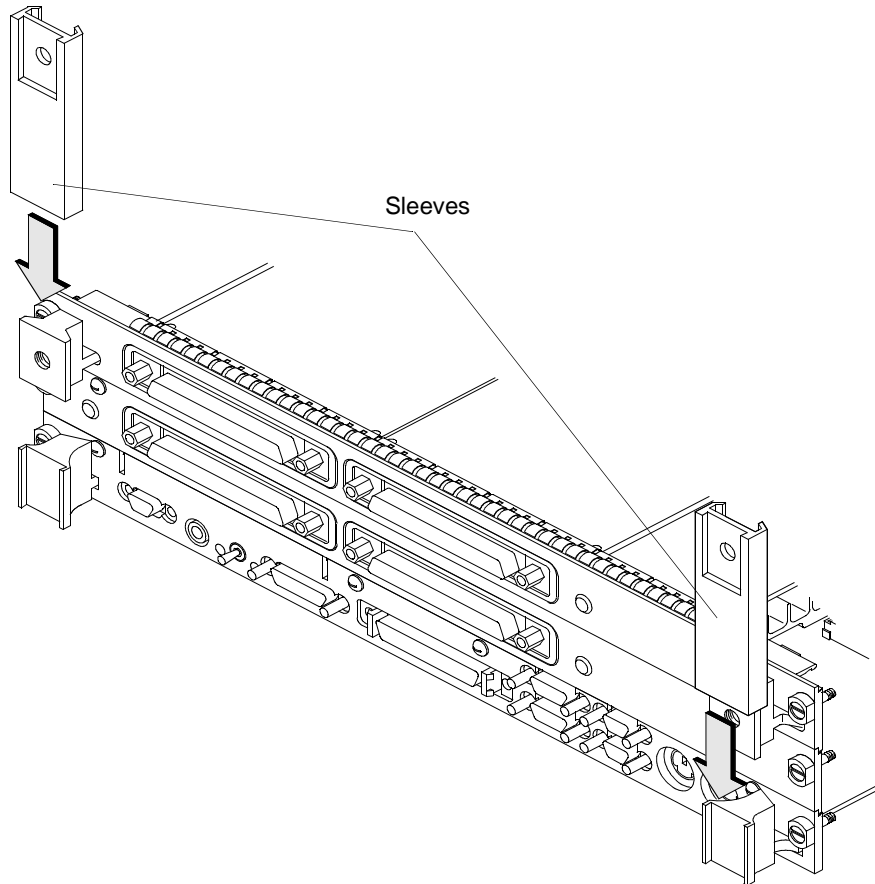

Figure 4-10 **Installing Ejector Handle Sleeves**
- b** Slide the sleeves over each set of handles, as shown in Figure 4-10.